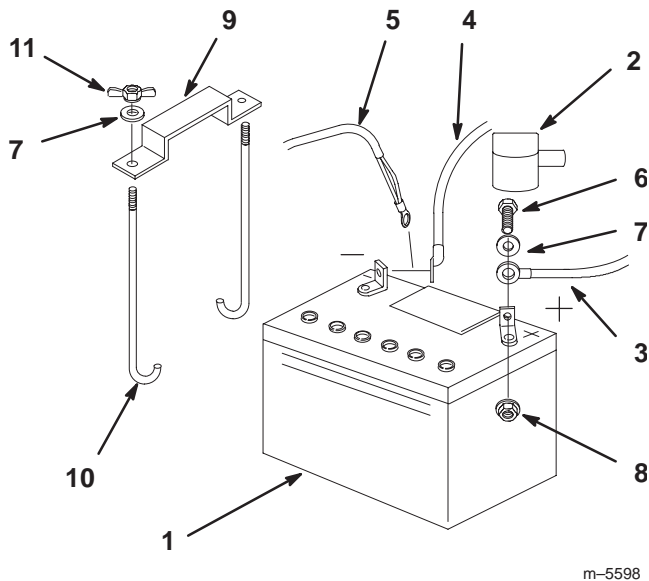

Figure 59
1. Position battery in tray with terminal posts toward the engine (Fig. 59).
4. Secure cables with 2 bolts (1/4 x 3/4 in.), 2 washers (1/4 in.), and 2 locknuts (1/4 in.) (Fig. 59).
6. Secure battery with J-bolts, hold down clamp and 2 washers (1/4 in.), and 2 wing nuts (1/4 in.) (Fig. 59).
3. First disconnect the negative battery cable and ground wire from the negative (-) battery terminal (Fig. 59).
4. Slide the red terminal boot off the positive (red) battery terminal. Then remove positive (red) battery cable (Fig. 59).
5. Remove both wing nuts (1/4 in.) securing the battery clamp (Fig. 59).